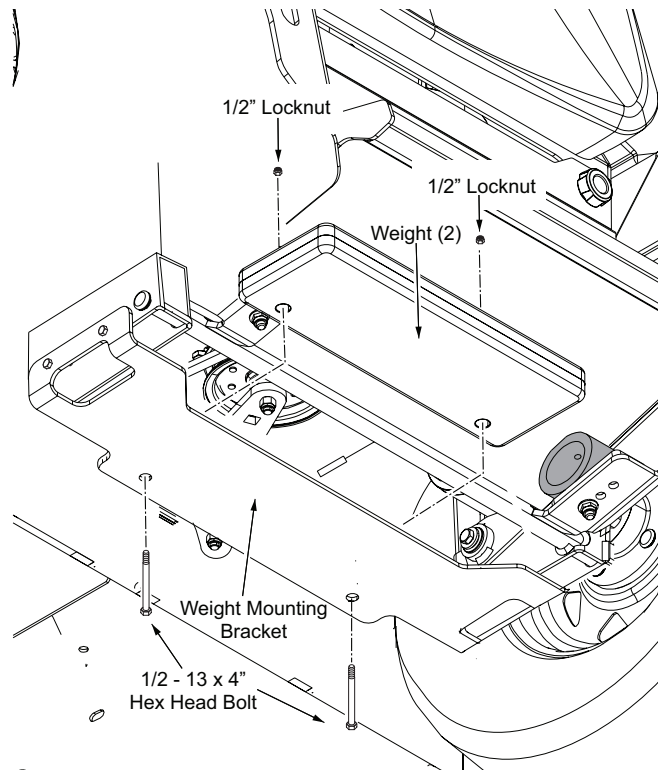

Figure 4.
10. Place each weight on top of the weight mounting bracket. Be sure to align the holes in the two weights with the holes in the weight mounting bracket. See Figure 4.
11. Secure the weights in place by installing the two 1/2 - 13 x 4" hex head bolts included in the kit through the bottom of the weight mounting bracket and then through the weights. Install and tighten the 1/2" locknuts. See Figure 4.